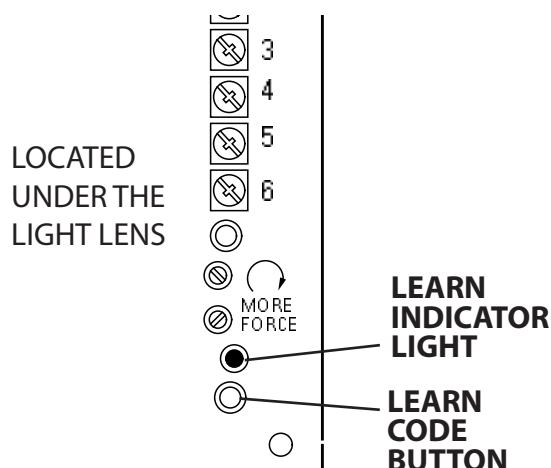

Figure 13 Learn Code Button and Indicator Light. (Located Lower Right Corner).
- Locate Learn Button and Learn Indicator Light near Terminal Block on Power Head (**Figure 13**).